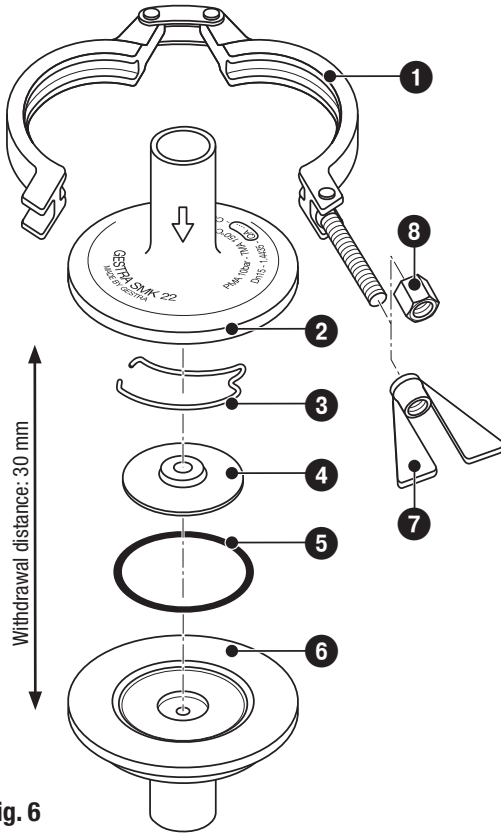
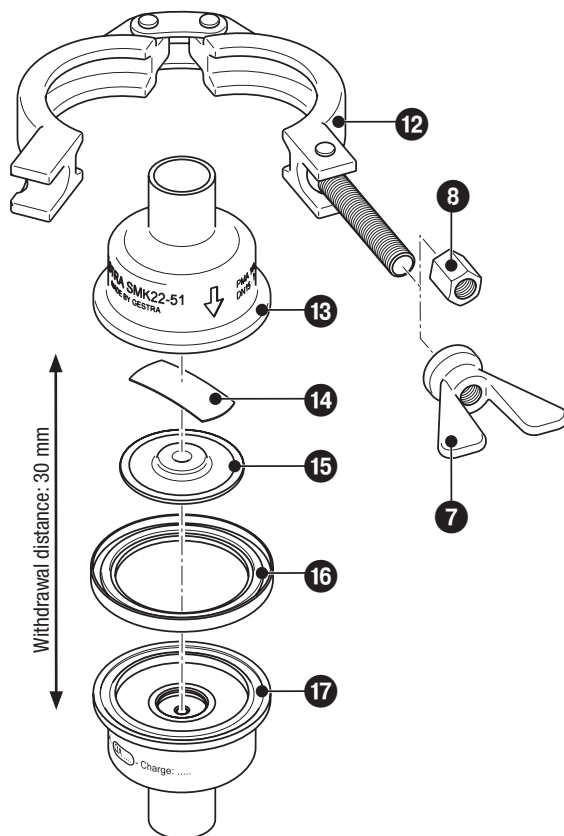
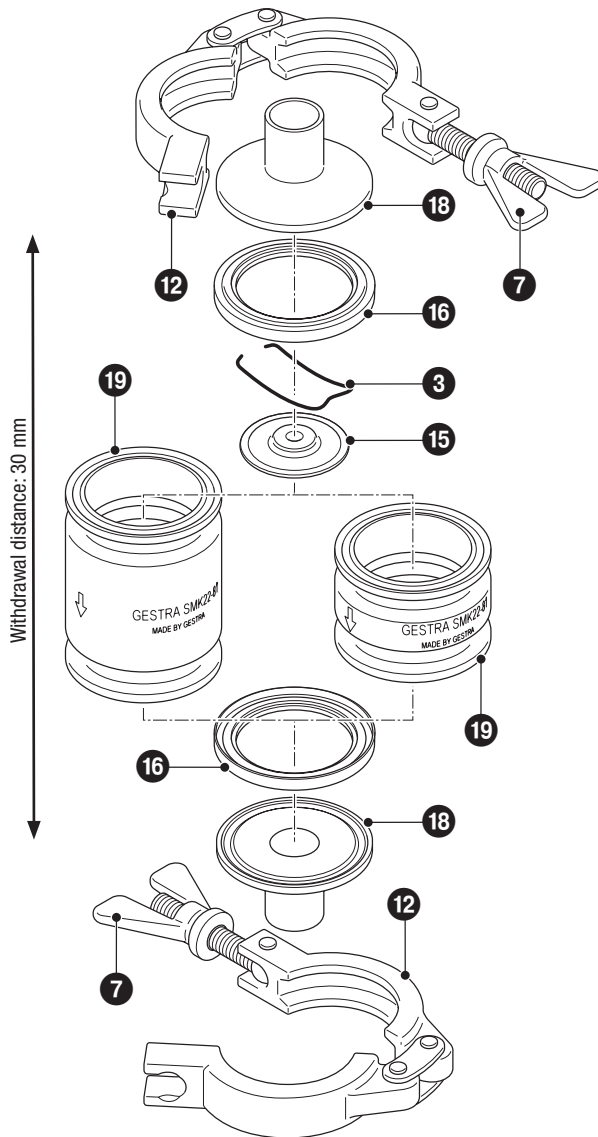

Fig. 6
Fig. 8
Fig. 9
1. Unscrew hexagon nut **8** or wing nut **9** of joint clamp **1** / **12** and remove joint clamp. **Fig. 6, Fig. 8, Fig. 9**